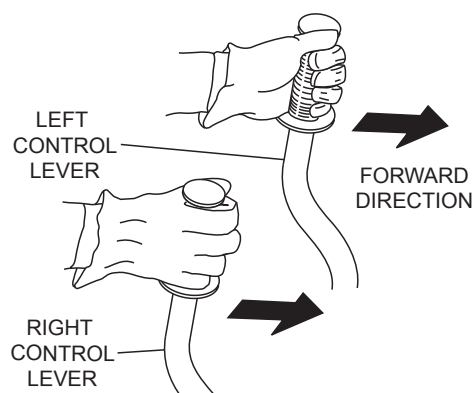

Figure 18. Left and Right Control Levers
- Push both the left and right control levers forward. See Figure 18.